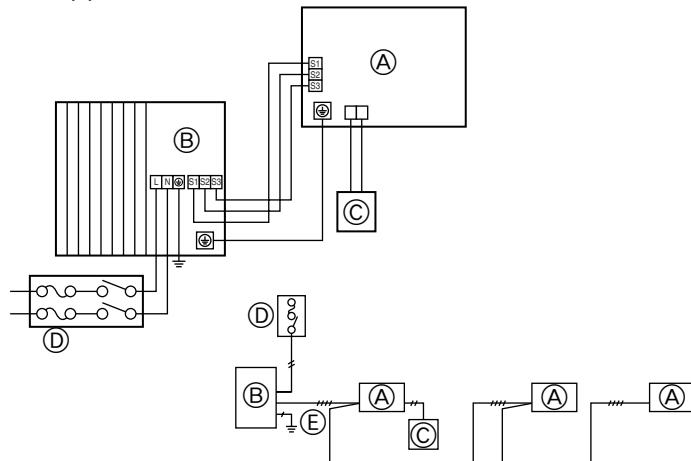

Fig. 6-1
6.1. Precautions (Fig. 6-1)
- Grounding protection with a no-fuse breaker (earth leakage breaker [ELB]) is usually installed for (D), (E).